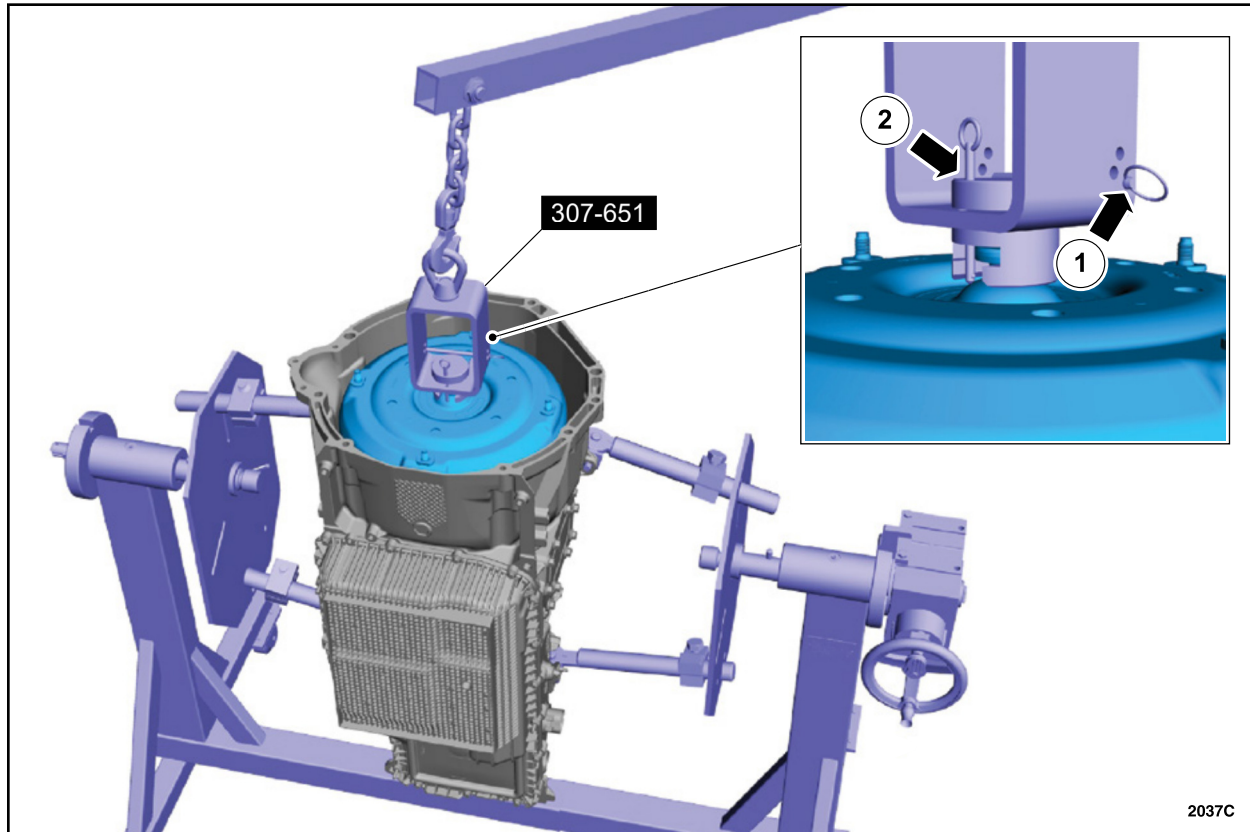

FIGURE 3
4. Using special service tool 307-651 and a floor crane, remove the torque converter. See Figure 3.